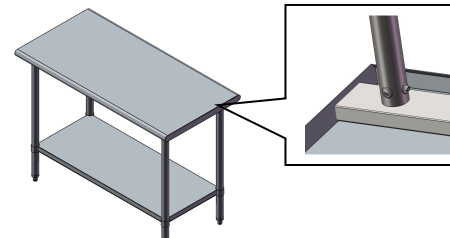

Fig.3
5. Position the table top onto the legs ,ensuring each leg is firmly located in its corresponding corner socket [Fig.3]